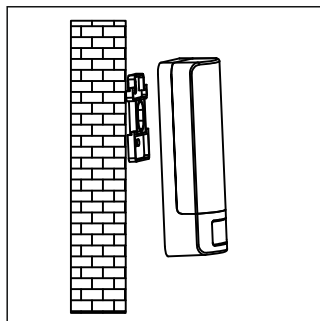

Fig.5
Step 5: After wiring place the bulkhead onto the installed mounting kit to complete the installation (Fig 5).